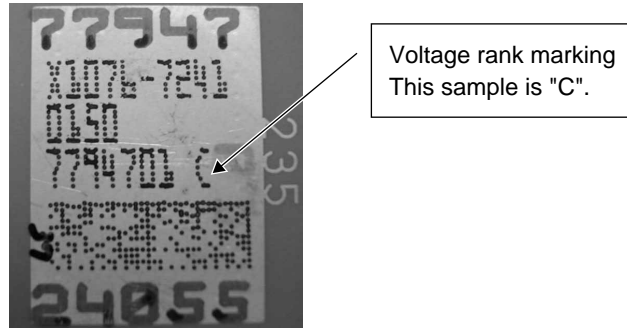

Fig.1 Shade
2. If something shade appears on the projection screen like Fig1, release 2 screws on mirror adjusting plate and move that plate to adjust illumination area of DMD chip.